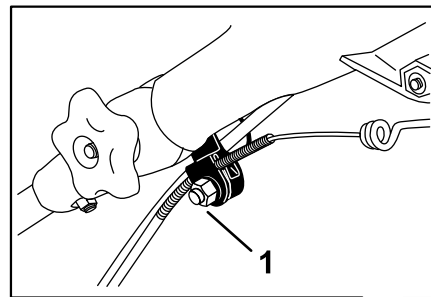

Figure 20
1. Loosen the nut on the cable mount (Figure 20).